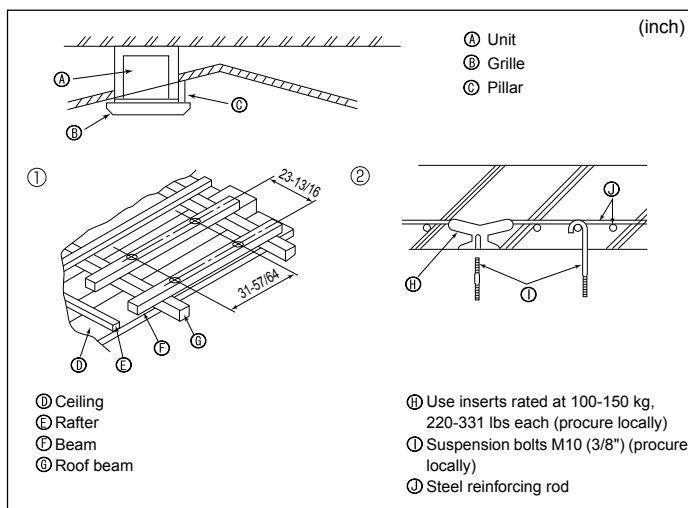
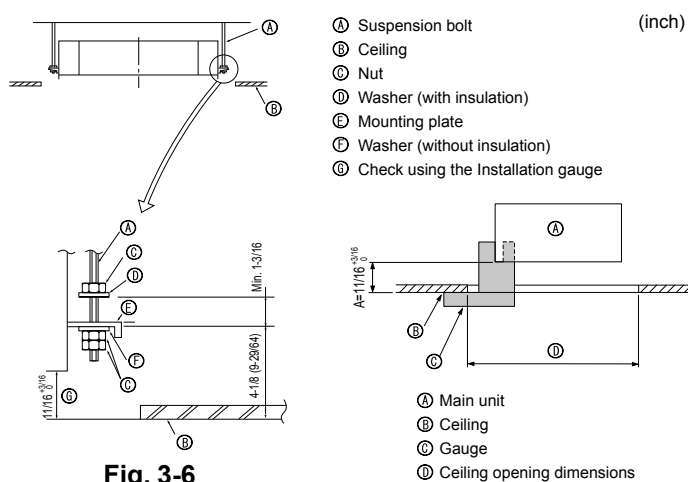

Fig. 3-5
Fig. 3-6
3.5. Suspension structure (Give site of suspension strong structure) (Fig. 3-5)
① Wooden structures
② Ferro-concrete structures
3.6. Unit suspension procedures (Fig. 3-6)